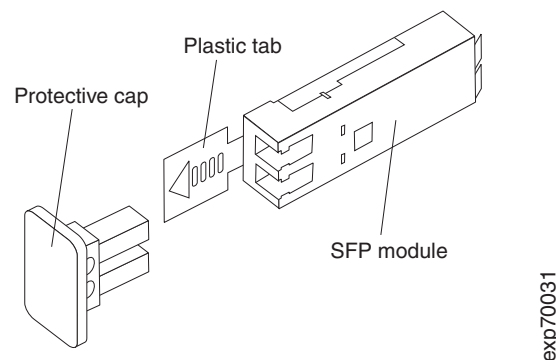

Figure 21. Small Form-Factor Pluggable (SFP) module
2. Remove the protective cap from the SFP module, as shown in Figure 21. Save the protective cap for future use.
2. If necessary, remove the protective cap from the SFP module, as shown in Figure 21 on page 33. Save the protective cap for future use.